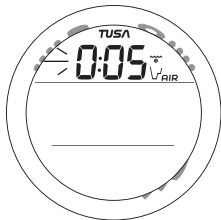

Fig. 44 - SET DTR ALARM
**SET DTR ALARM**, information includes (Fig. 44):